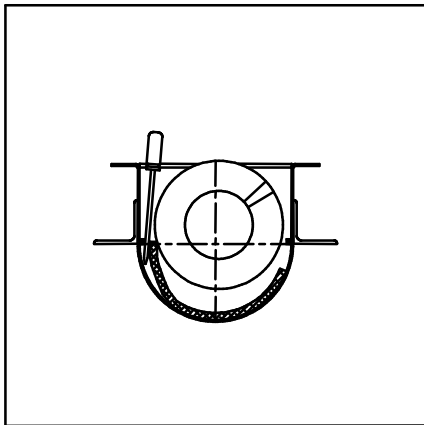

*Figure 5.2a - Taking off the Cover*
1. Empty the Spirotainer of material. Unfasten the lid and remove or push back from the trough (see Fig 5.2a).